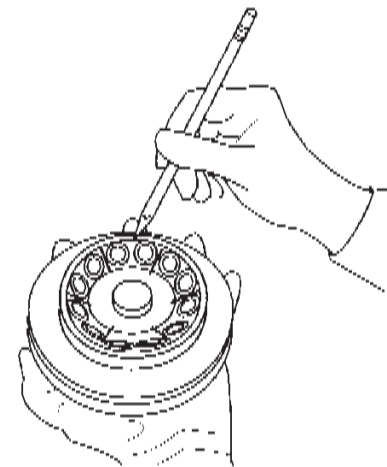

Figure 5. Checking the rotor web area
- The web area between the sample tube slots. (See figure 5.)